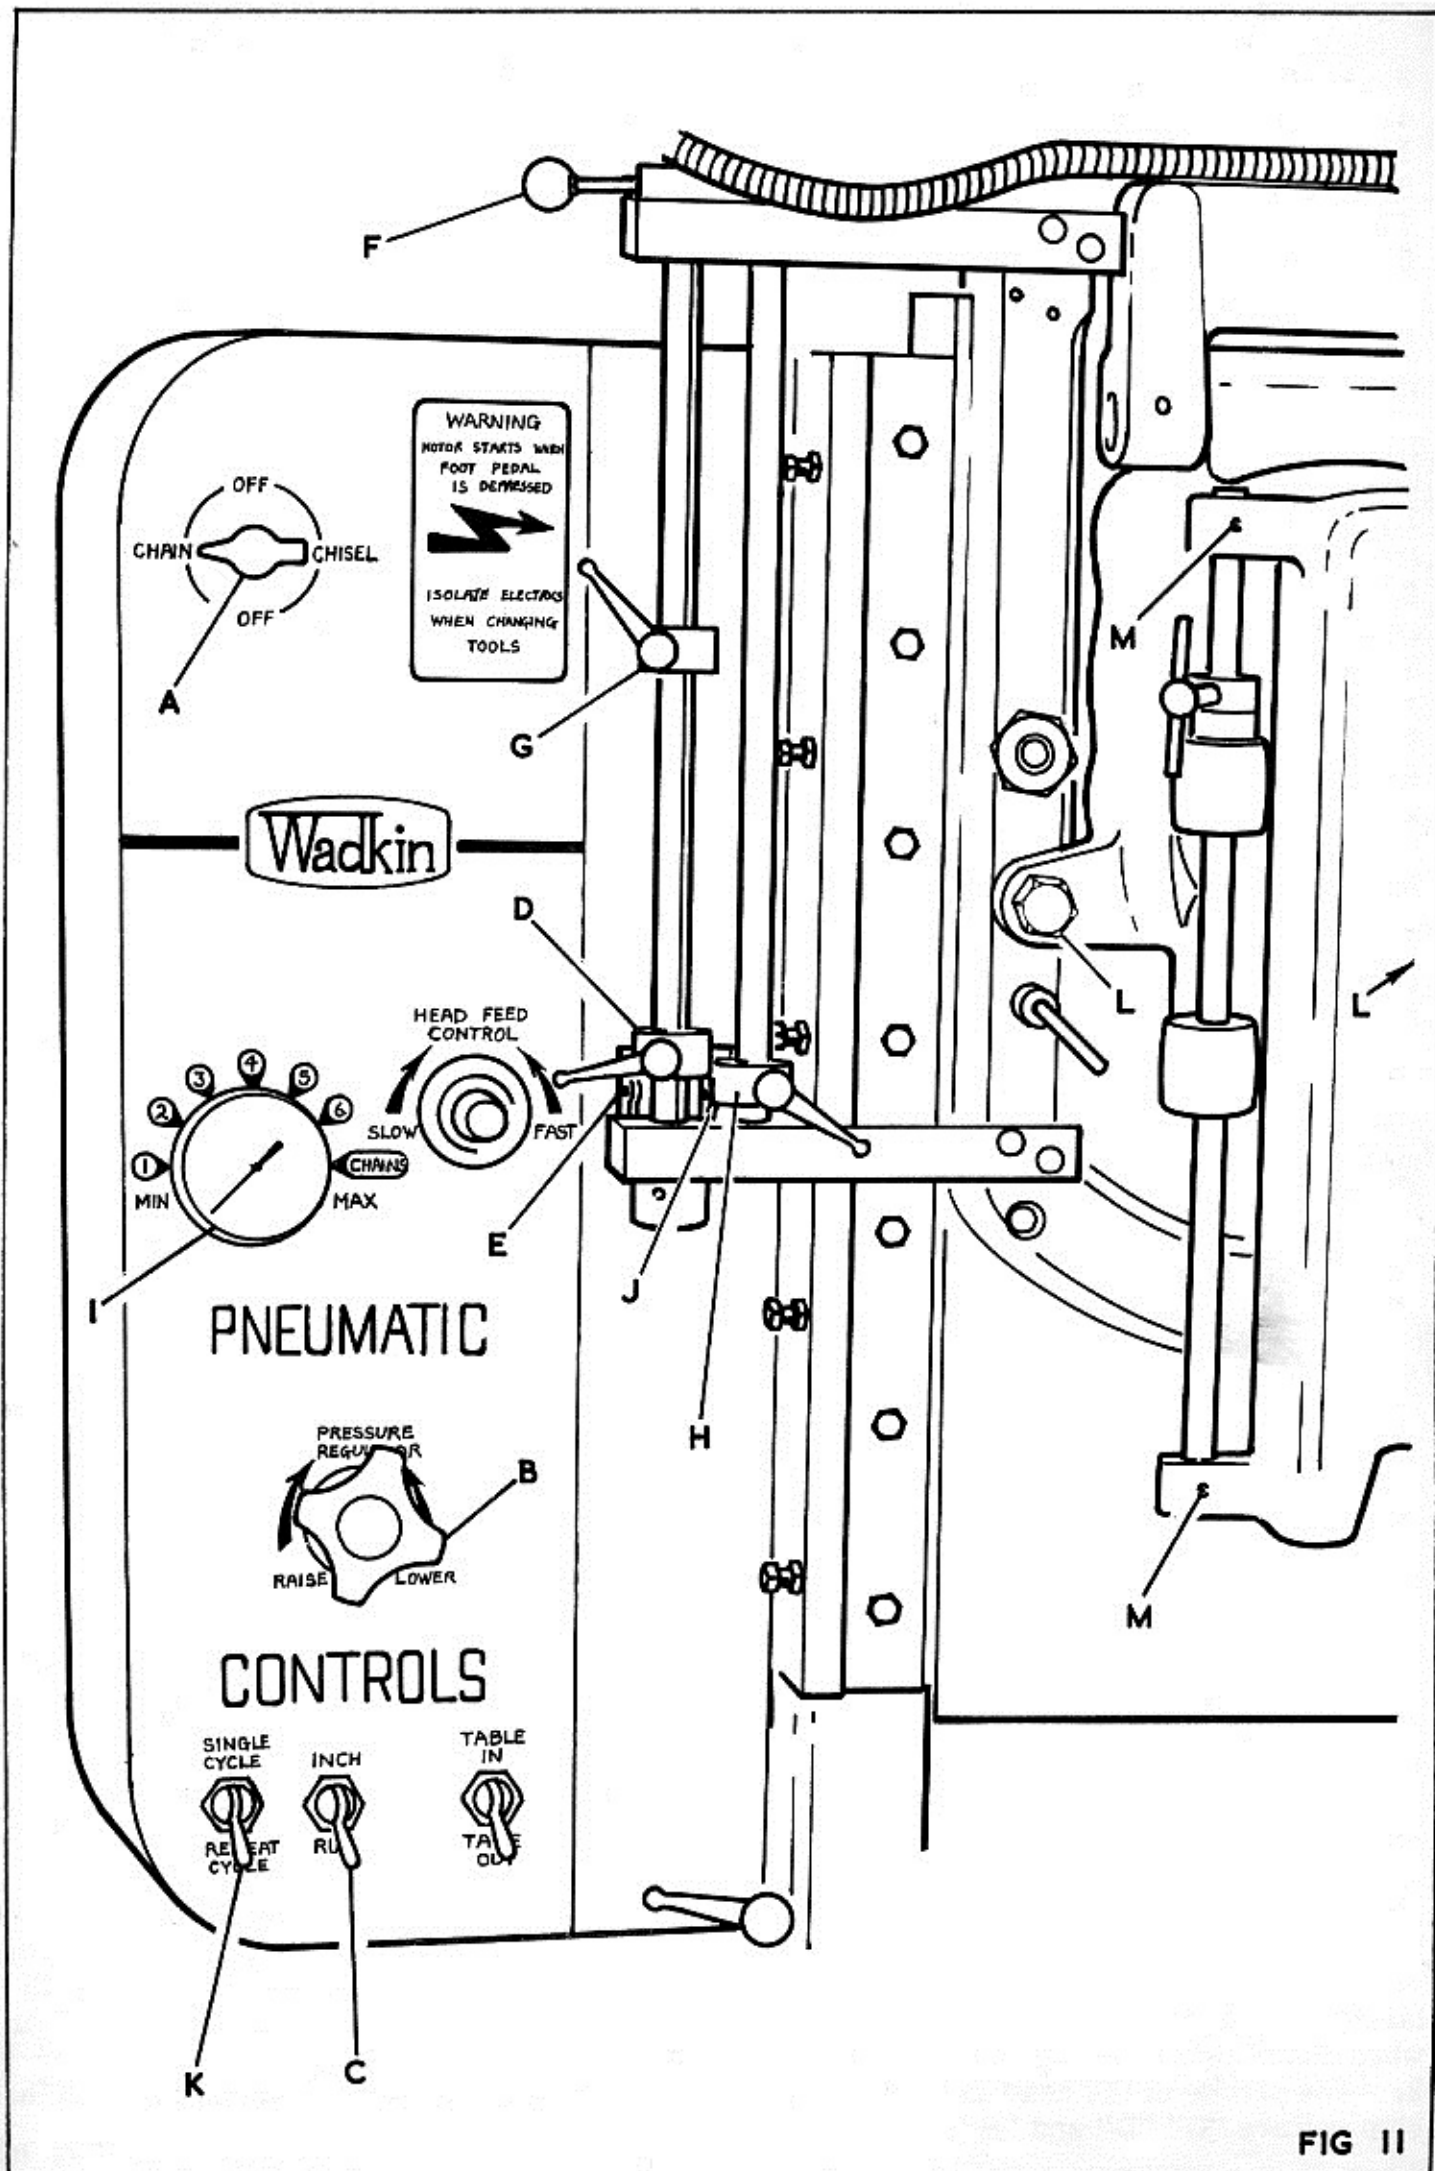

FIG 11
4. Swing head round to chain position and lock with two hexagon head bolts "L" as in Fig. 11
5. Fit chain guard swivel bar complete with chain guard and tighten grub screws "M" in Fig. 11
3. With switch "C" in Fig. 11 in "INCH" position, move head to lowest point of travel. Note:- Switch on side of machine must be in "chain grinding" position to ensure that the motor keeps running during the grinding operation. When operation is finished switch should be returned to mortising position.